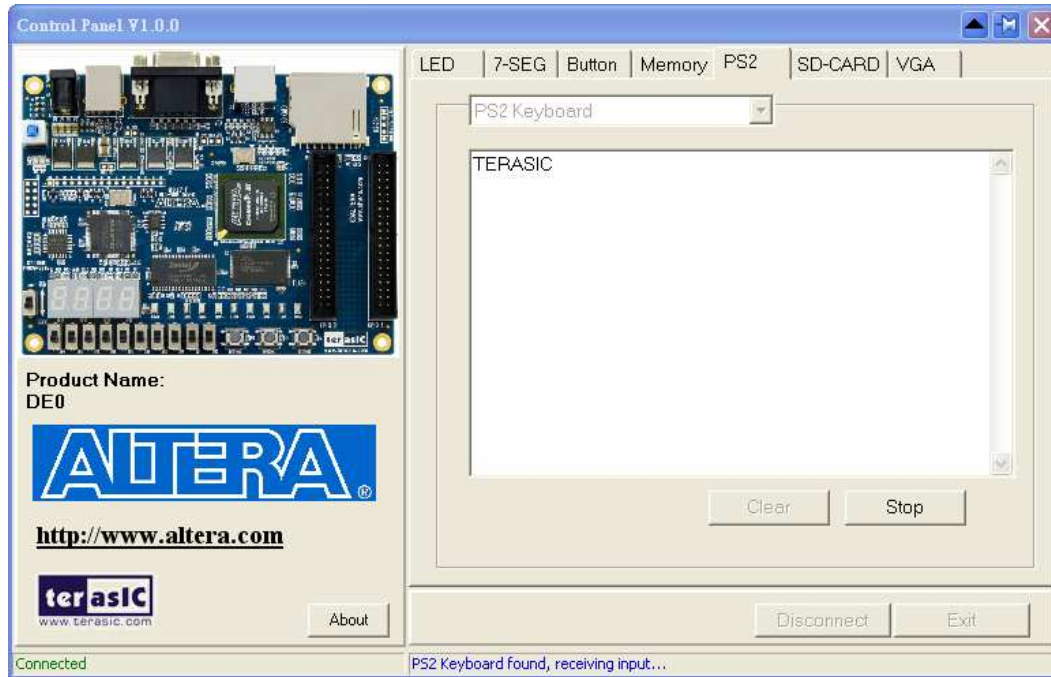

Figure 3.8. Reading the PS2 Keyboards
1. Choosing the **PS2** tab leads to the window in Figure 3.8.